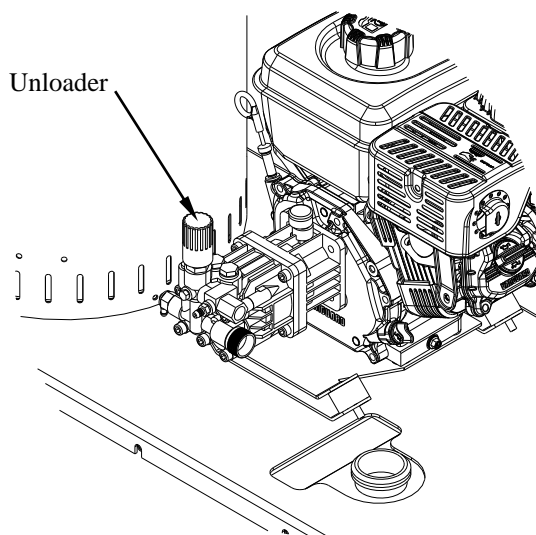

Figure 11
8. The pressure washer is set and locked to the maximum rated pressure when it leaves the factory. To reduce the pressure, turn the unloader knob counterclockwise (see Figure 11 below).